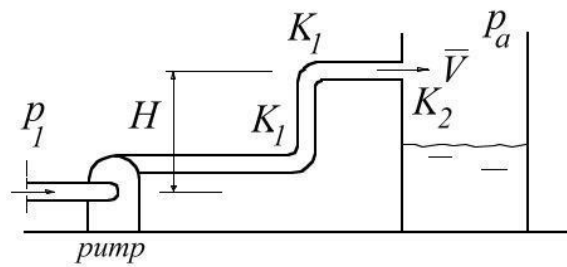

Figure P8.51
8.51 A pump delivers water through the piping system which exits to atmosphere, as shown in Figure P8.51. The friction factor $f = 0.01$, the overall length of the pipe $L = 10 \text{ m}$, the diameter of the pipe $D = 0.1 \text{ m}$, the loss coefficients $K_1 = K_2 = 1$, the water density $\rho = 1000 \text{ kg/m}^3$, the bulk velocity in the pipe $\bar{V} = 4 \text{ m/s}$, $H = 5 \text{ m}$, and the pump develops 750 W . Find the gauge pressure at the inlet to the pump, p_{ig} .